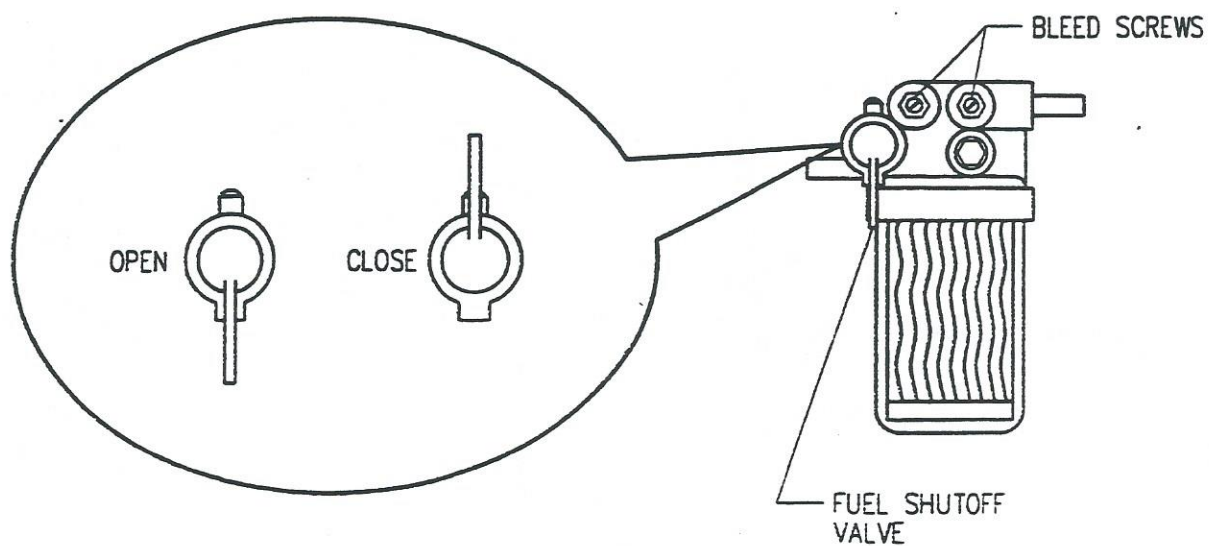

Figure 32 Fuel Filter
5. Turn fuel shutoff valve to ↓ O (open) position. (Figure 32)
3. Turn fuel shutoff valve to ↑ C (closed) position. (Figure 32)